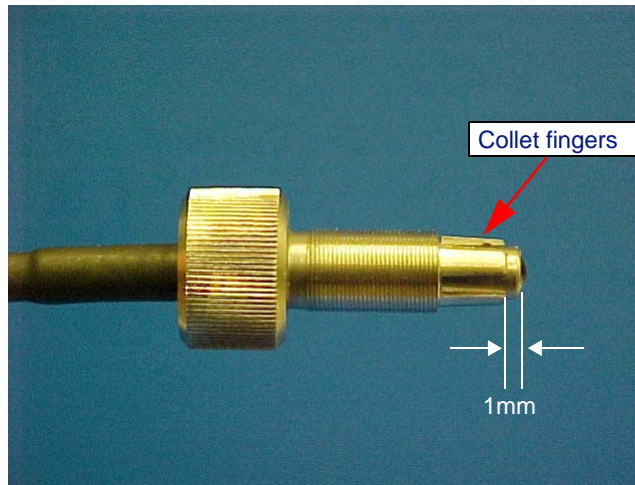

Figure A-5: Optical fiber in collet. The end of the fiber should protrude about 1mm from the end of the collet.
4. Once the fiber collet has been unscrewed all the way, the optical fiber and collet will detach from the mount (see Figure A-5).